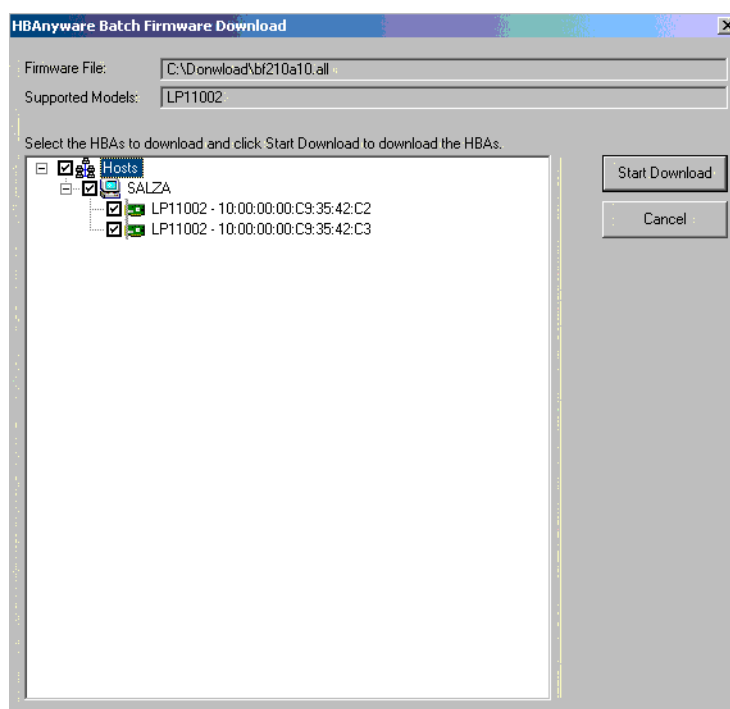

Figure 24-42 Emulex - HBAware - Batch Firmware Download
11. The HBAware Batch Firmware Download window appears (Figure 24-42). Mark all the HBAs you want to update and click **Start Download**. The image will be transferred to the HBA; this may take a few seconds.